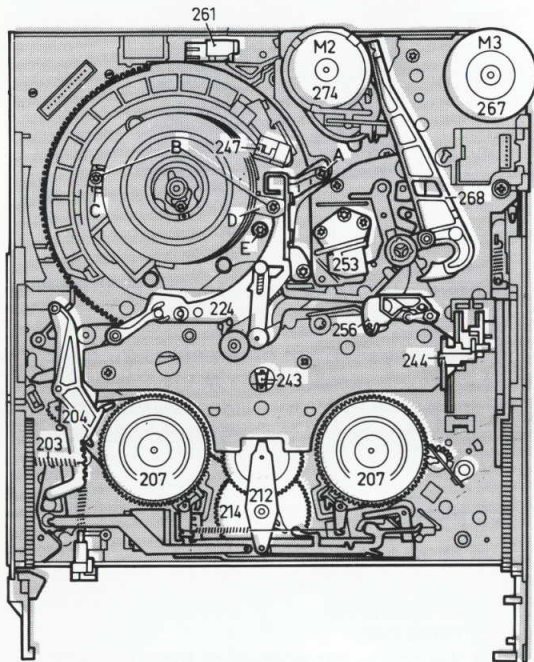

Fig. 3-1-17
- Remove scanner (Fig. 3-1-17).
- Mark the right-hand fixing screw E (Fig. 3-1-17) of the scanner carrier.